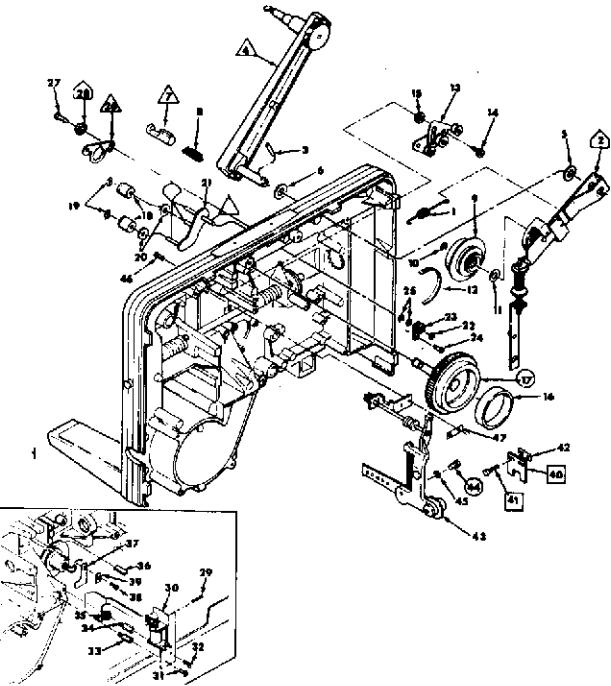

Figure 13
The clutching action is provided by the interaction of the take-up clutch arm and pulley (9), the take-up clutch liner (10, and the take-up clutch gear (17). (Figure 13). The liner fits snugly inside the gear and the pulley fits inside the liner.